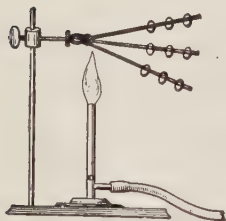

FIGURE 155.
**EXPERIMENT 44.** — Support a brass rod horizontally and on it slip several paraffin rings evenly spaced (Figure 155). Heat one end of the rod. *Which ring melts off first? Why? What has happened to the molecules of brass at this ring? Why do you suppose this to be true?*
**EXPERIMENT 45.** — In a manner similar to the previous experiment, support rods of brass, iron, and glass so that one end of each may be heated simultaneously and equally (Figure 155). Hang a paraffin ring on each, at an equal distance from the flame. Heat the rods until two of the rings have fallen. *Which substance is the best conductor? The poorest? In general are metals or non-metals the best conductors?*